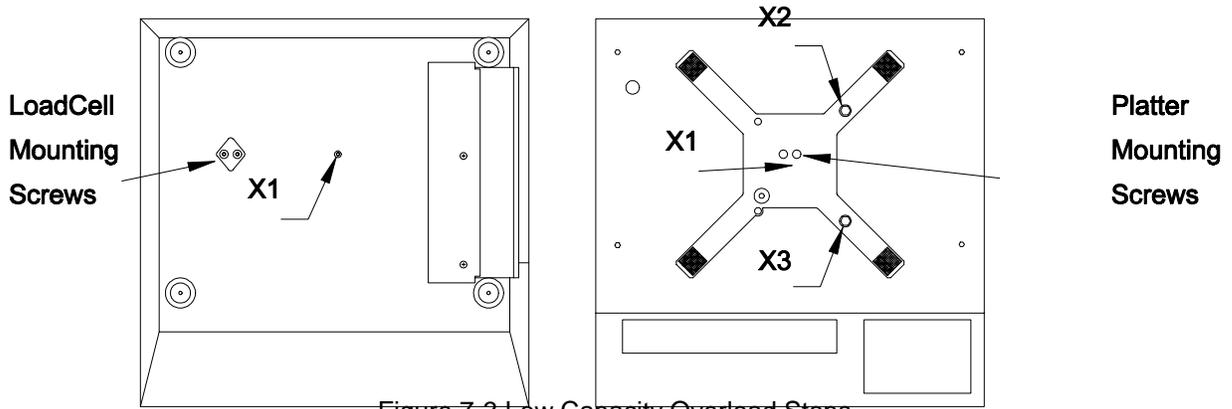
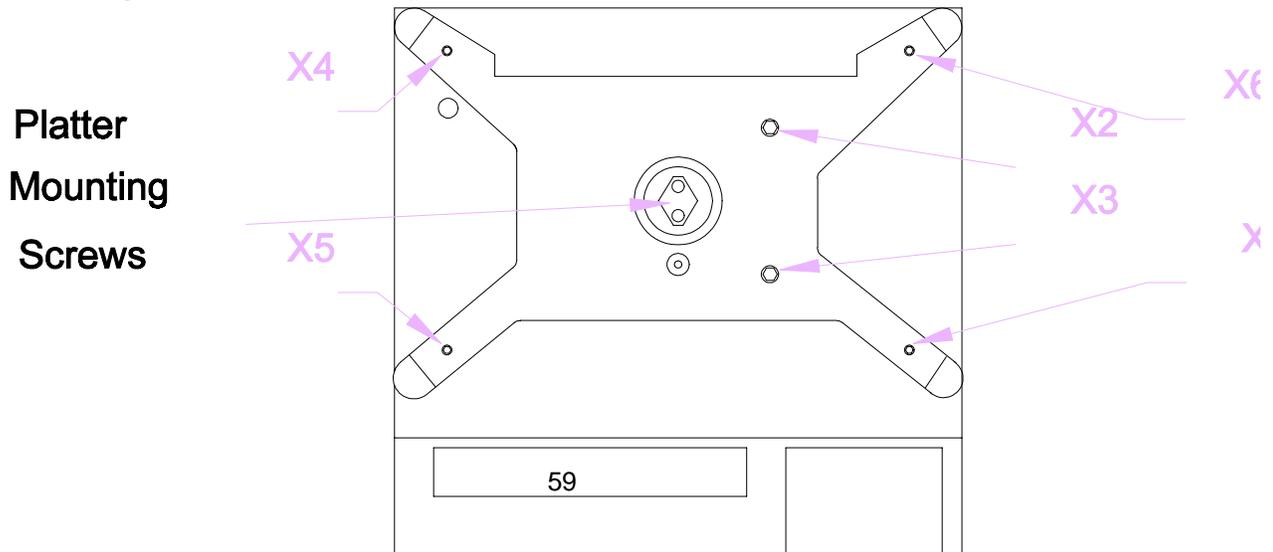

Figure 7-3 Low Capacity Overload Stops
Figure 7-4 Higher Capacity Overload Stops
The overload stops must be adjusted when the load cell and/or sub-platter has been replaced. There can be up to six overload stop positions, identified as X1 through X7. Factory numbers 8572-0002, and 1002, (5 lb capacity) versions use stops X1, X2, and X3. Overload stop X1 is located under the load cell. Refer to Figure 7-3 for overload stop locations. Factory numbers 8572-0003, -0004, 0005, 0006, 1003, 1004, 1005, and 1006 (25 lb capacity and greater) scales use stops X2 through X7, refer to Figure 7-4.
The various test weights specified in Table 7-1 are placed in turn on the center of the platter to adjust X1, the right rear corner to adjust X2, and the right front corner to adjust X3. Refer to Figure 7-3 and Table 7-1.
- Repeat this procedure for each of the six overloads X2, X3, X4, X5, X6, and X7. Refer to Figure 7-4 for overload stop location.